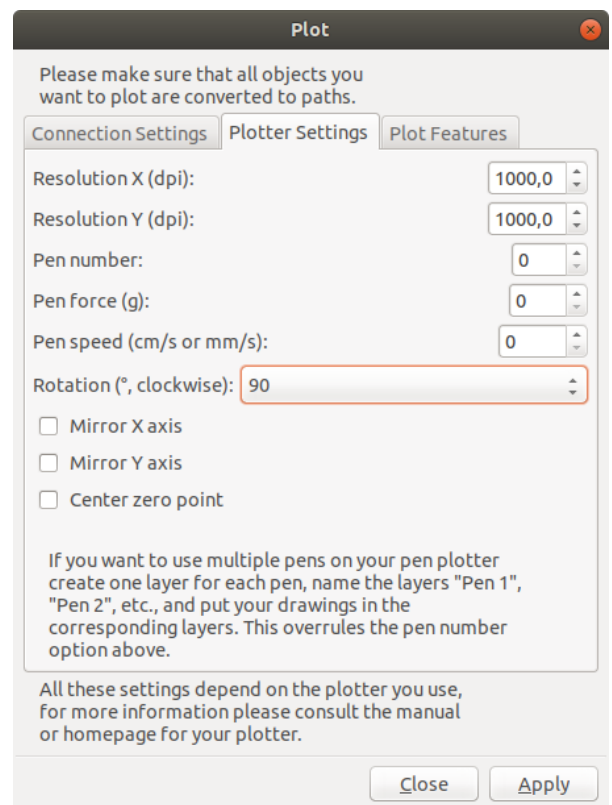

Figure 4.1b: Plotter Settings
3. At the *Plotter Settings* tab (Figure 4.1b) set both X and Y resolution to 1000 dpi, the pen number to 0 and the rotation to 90°. *Pen force* and *speed* will be ignored by the plotter. Instead set these parameters at the plotter itself.